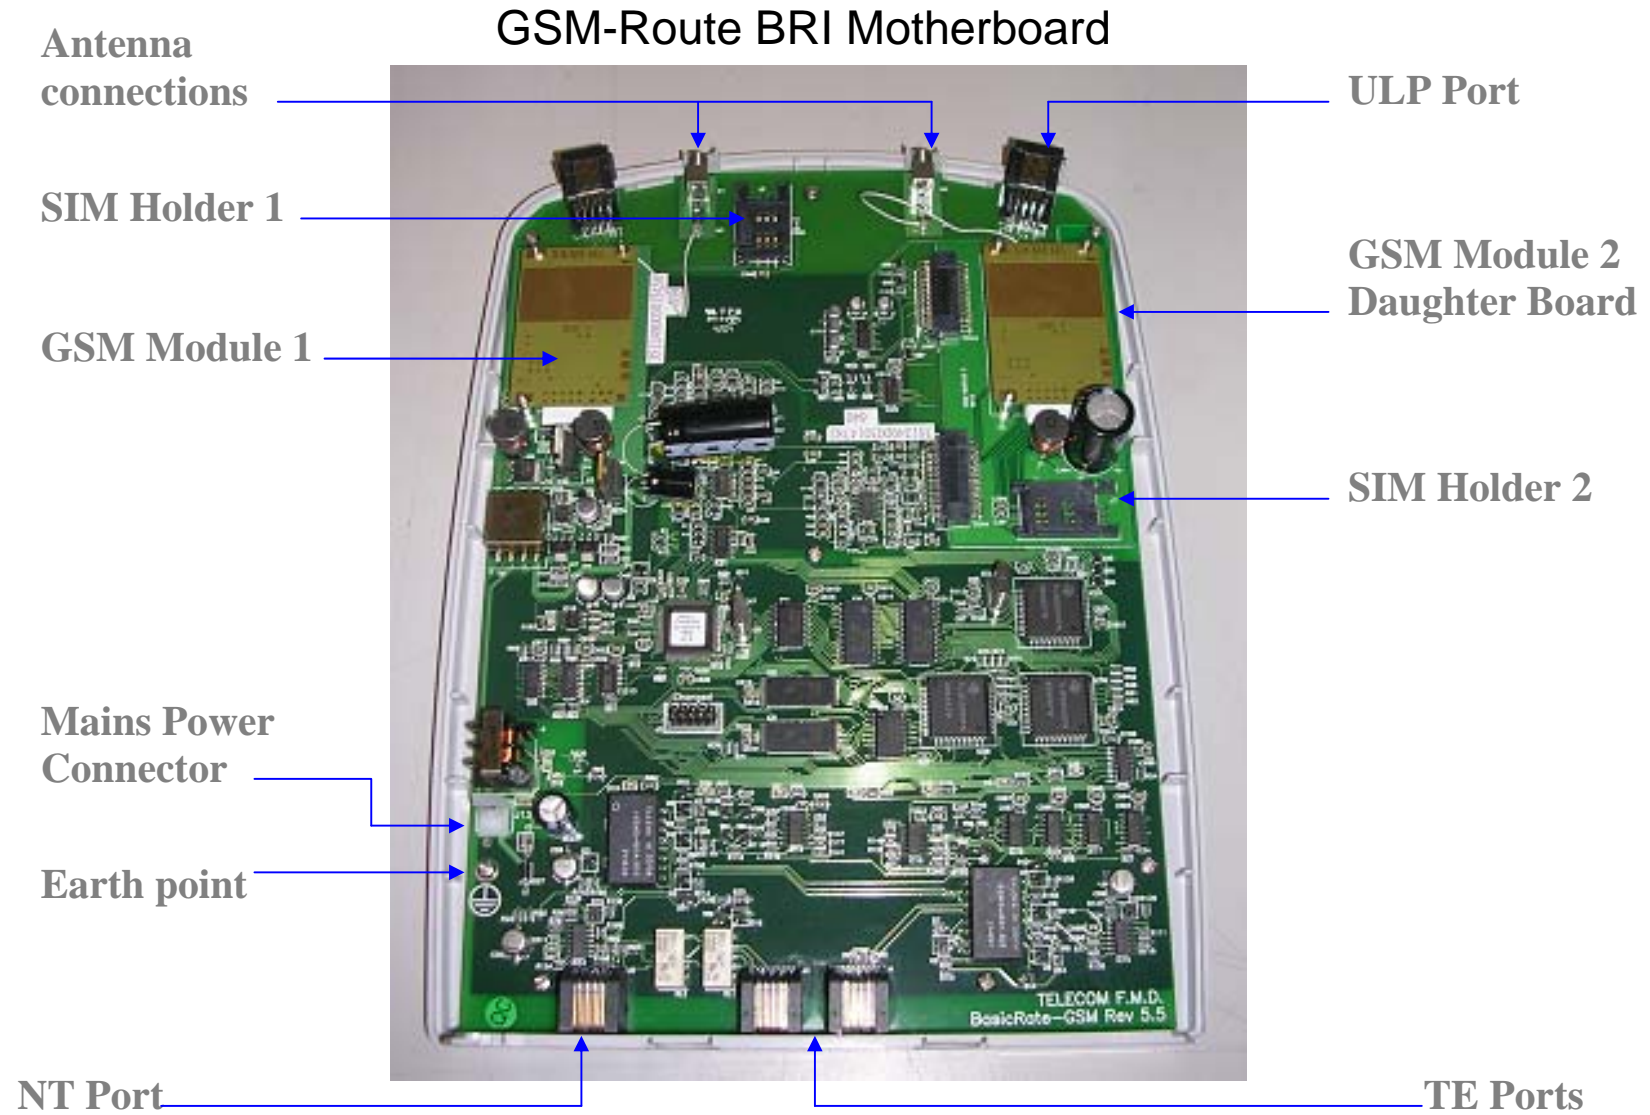

Figure 2
8. Ensure that the GSM-Route BRI is bonded to Safety Earth Ground using the earth cable provided (see fig 2) page 8
4. Insert SIM cards into the SIM holders (see figure 2 page 8)